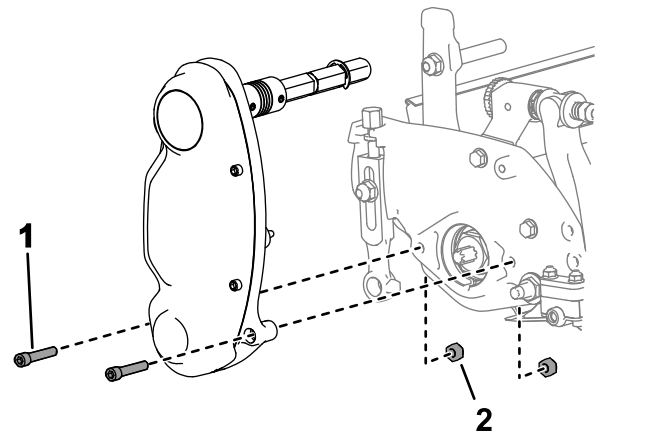

Figure 13
- Remove the hardware that secures the reel-drive assembly to the side plate (Figure 13).
- Remove the nuts from the inside of the side plate (Figure 13).